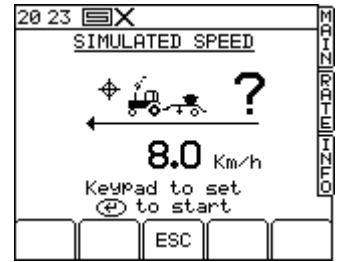

fig. 59
- 3) Enter the simulated working speed value using the numeric keypad (Fig. 59).